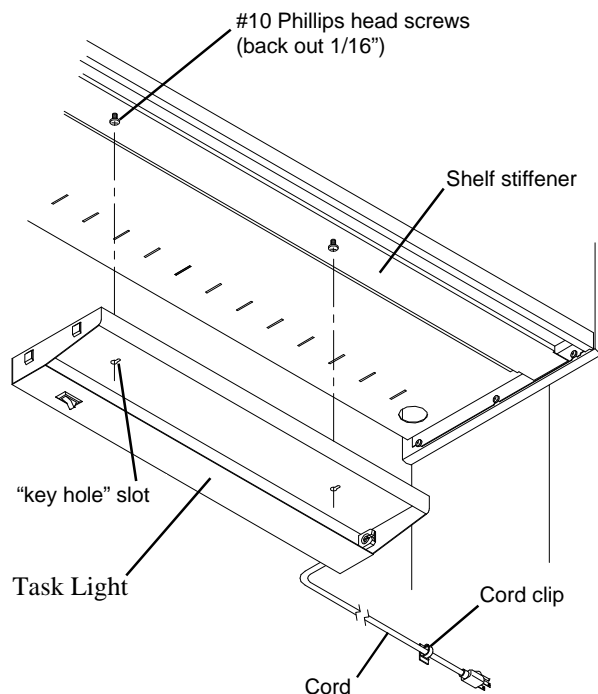

Figure 10
1. Locate the two screw holes in the Shelf stiffener that are 40" apart. Install two #10 x 3/8" Phillips head sheet metal screws partially into the holes, leaving them protruding approximately 1/16". See **Figure 10**.